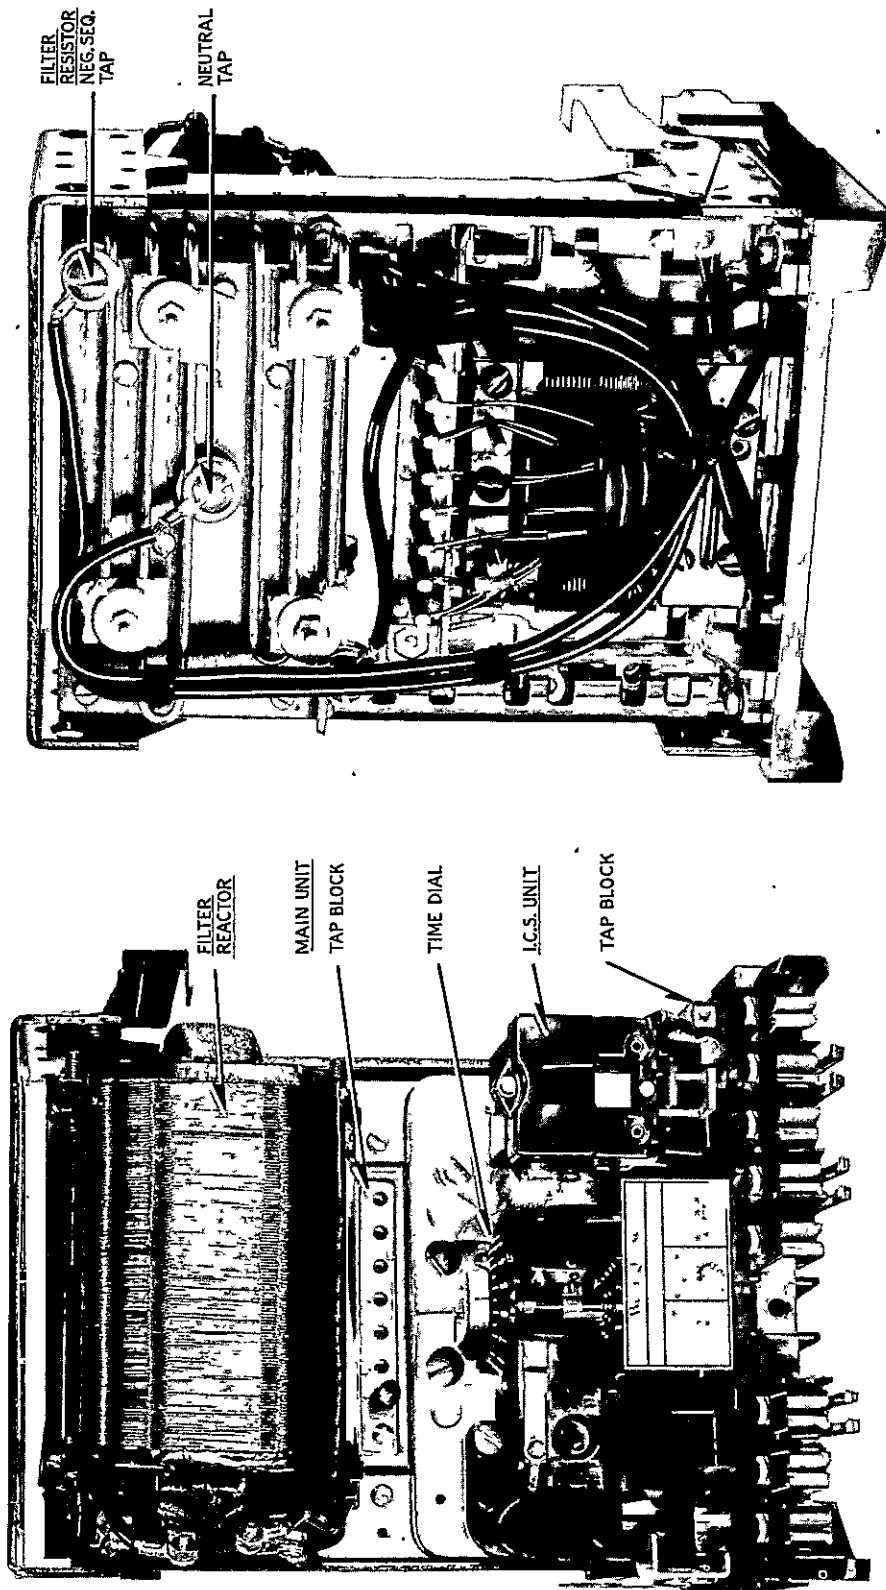
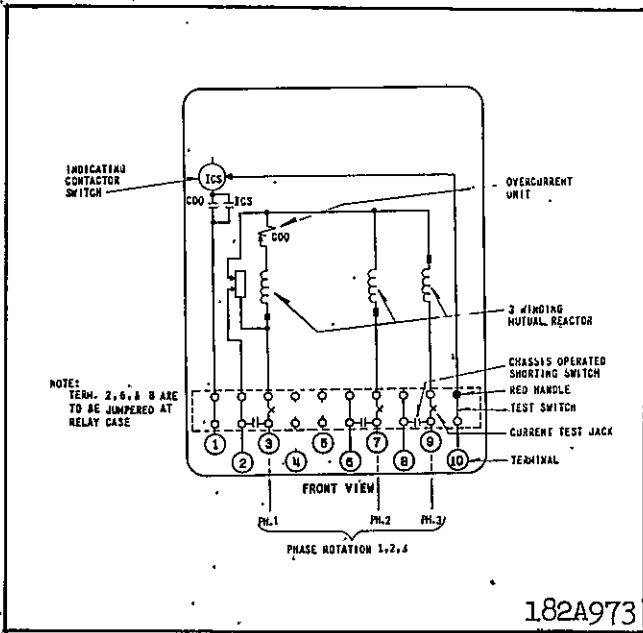
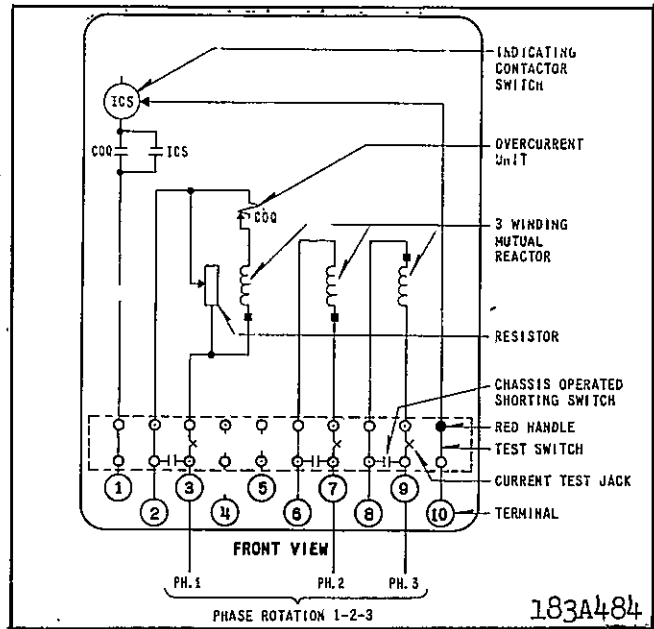

Fig. 1. Type COQ Relay - Without Case.
Fig. 2. Internal Schematic of the Type COQ Relay in the FT21 Case - Neutral Formed in Relay.
Fig. 3. Internal Schematic of the Type COQ Relay in the FT21 Case - For Forming Neutral External to Relay.
The COQ is used to prevent a synchronous machine from being damaged due to negative sequence fault currents. Two varieties are available, as shown in figures 2 and 3, depending upon whether the neutral can be formed at the COQ or whether the neutral must be formed elsewhere. (See external schematic, figures 8 and 9.)
- e. Now measure the voltage across the resistor. Adjust top filter resistor position until this voltage is 1.73 times the reading from (d) above. (For relays wired per figure 2 connect the voltmeter to switch jaw 3 and to the top filter resistor screw connection (see figure 1). (For relays wired per figure 3 connect voltmeter across switch jaws 2 and 3.)
To eliminate zero sequence response (relays wired per figure 2 only), remove tap screw, and connect per figure 10: Apply $I_x = 5$ amperes; $I_y = 10$ amperes. Measure voltage from terminal 3 to top filter resistor screw connection (see figure 1). Adjust the neutral filter resistor tap until measured voltage is zero.